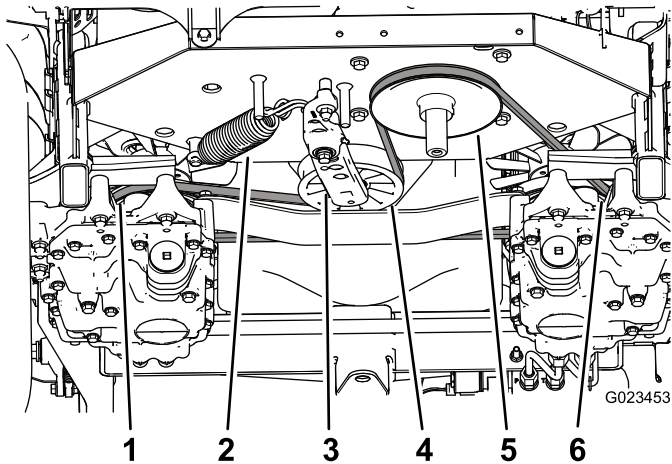

Figure 56
3. Use a ratchet in the square hole in the tensioner arm to counteract against the tensioner spring (Figure 56), and remove the belt from the tensioner pulley.
4. Unhook the tensioner spring from the tensioner arm and the frame (Figure 56).
9. Install the spring on the tensioner arm and the frame (Figure 56).